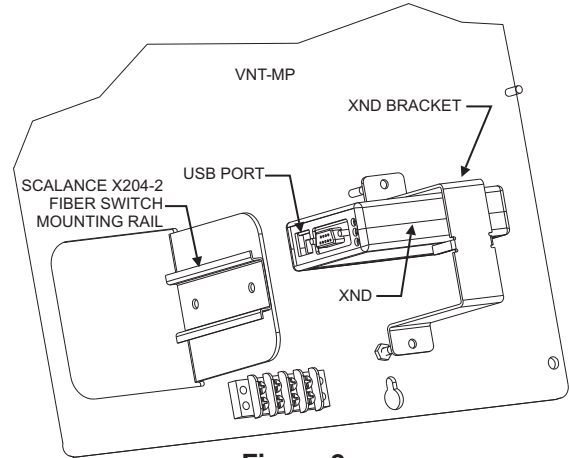

Figure 2
In addition to the above application, the XND can also be used in a Fire Command Center or Building configuration of the FVNET System where the XND is a FireFinder-XLS network interface module used to electrically connect to the network via the RJ12 connector on a NIC-C or PMI/PMI-2. In this application, the XND is the interface to the voice node HNET via the HNET NIC-C. It must be physically located in the same cabinet as the HNET NIC-C and the VNT. The XND is connected via USB to the VNT. Refer to Figures 2 and 3.
VNT Connection (Refer to Figures 2 and 3)
1. The bracket for the XND is attached to the VNT-MP Mounting Plate at the lower right-hand corner. There is room to mount two XNDs in the bracket. Before inserting the XND in the bracket, make sure that the XND is in the correct orientation for connection to the VNT. The USB port should be facing out toward the Scalance X204-2 Ethernet Multimode Fiber Switch. (Refer to Figure 2.)